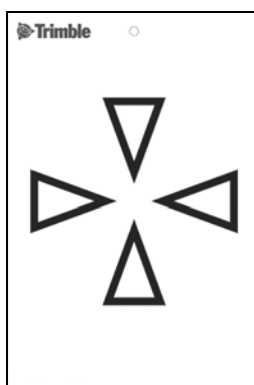

Figure 3.13 Laser adjustment plate
1. Setup the Laser adjustment plate 25–50 meter away, facing the Trimble SPSx20 Total Station, see Figure 3.13.